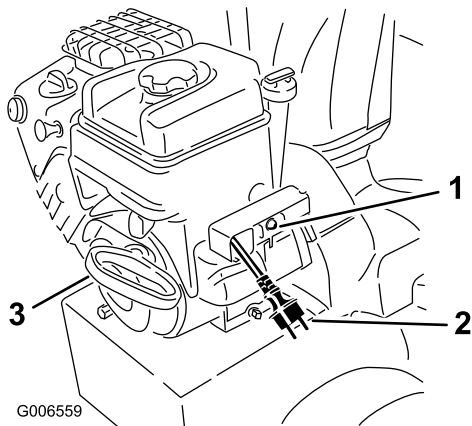

Figure 4
7. Start the snowthrower by pressing the electric-starter button (Figure 4).